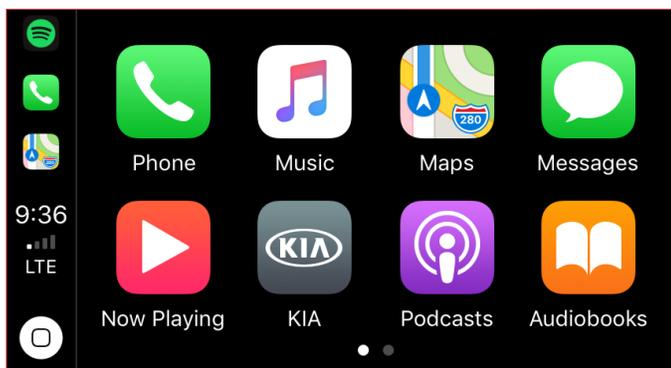

Fig. 1. Apple CarPlay initial home screen
- Be sure to check all screens within Apple CarPlay by swiping left on the Apple CarPlay home screen as the app may not appear on the first page (figs. 1 & 2)